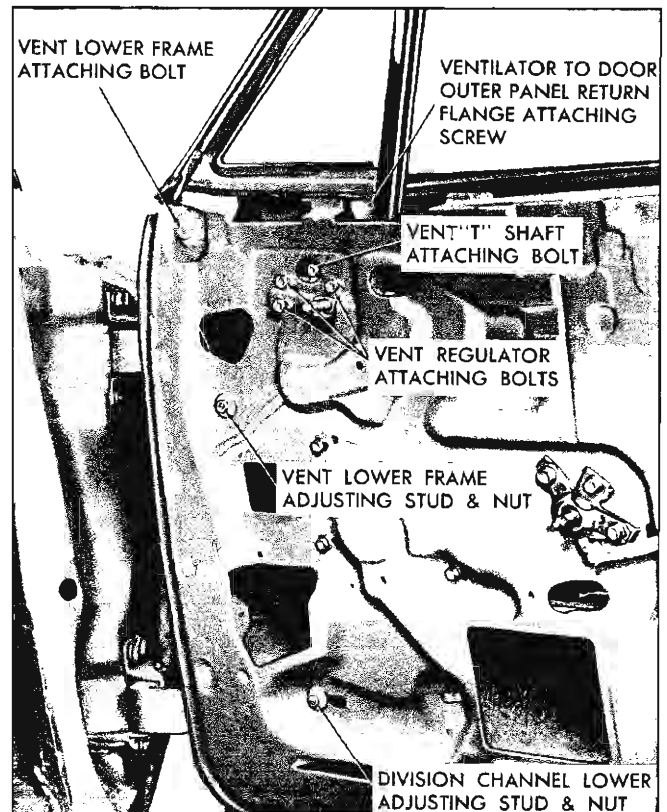

Fig. 30—Front Door Ventilator Assembly Adjustments
3. Remove ventilator tee shaft attaching bolt and ventilator regulator attaching bolts (fig. 30).
Excessive “play” (flutter) of ventilator at pivot shaft, when ventilator is in an open position, can be corrected by tightening ventilator “T” shaft to regulator attaching bolt (fig. 30).
2. Lower door window. Remove ventilator to door outer panel return flange attaching screw (fig. 30).
4. Remove ventilator division channel lower adjusting stud and nut (fig. 30).
6. Remove ventilator lower frame attaching bolt and ventilator lower frame adjusting stud nut (fig. 30).
3. To adjust lower portion of ventilator division channel for alignment with window assembly, lower door window and loosen ventilator division channel adjusting stud nut. Turn adjusting stud in or out or position lower end of channel fore or aft, as required; then, retighten adjusting stud nut (fig. 30).
2. Remove ventilator division channel lower adjusting stud and nut (fig. 30).